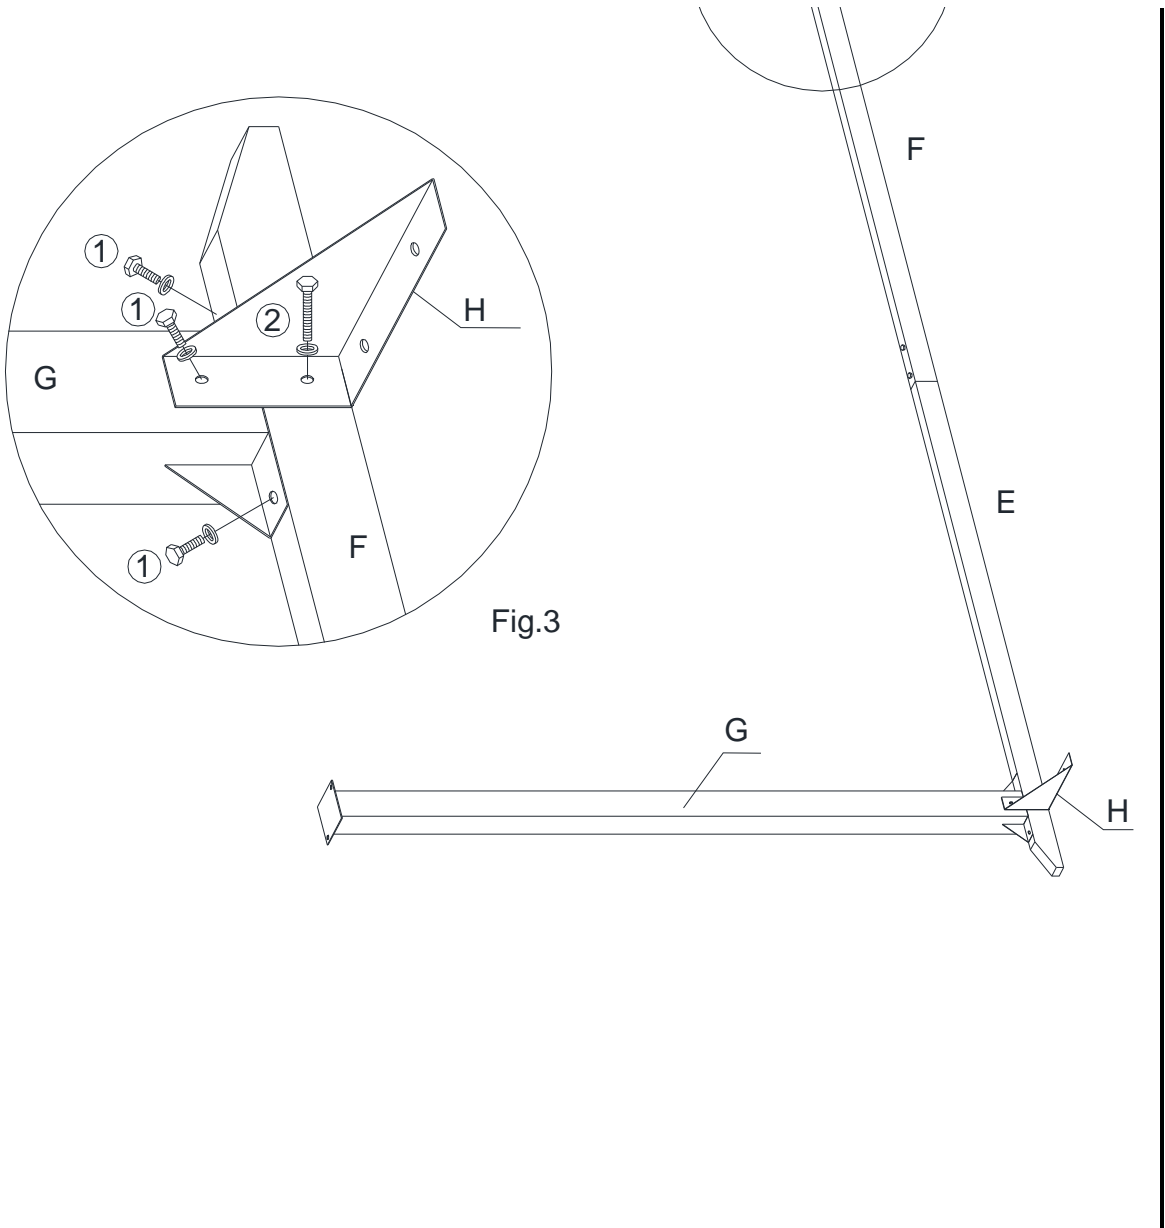

Fig.3
Attach Brace(H) to the Main Pillar(G) using Bolts(1) and Bolts(2) with Wrench(5). (See Fig. 3) (See Fig. 5)